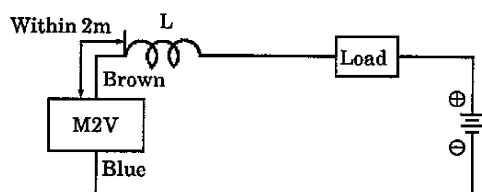
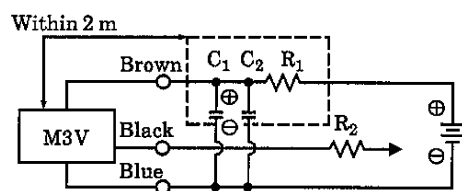

Fig. 5 • Choke coil
Fig. 7
- If the total length of the lead wires exceeds 10 m, be sure to install a protect circuit as shown in Fig. 5 and 6 (for M2V) and Fig. 7 (for M3V).